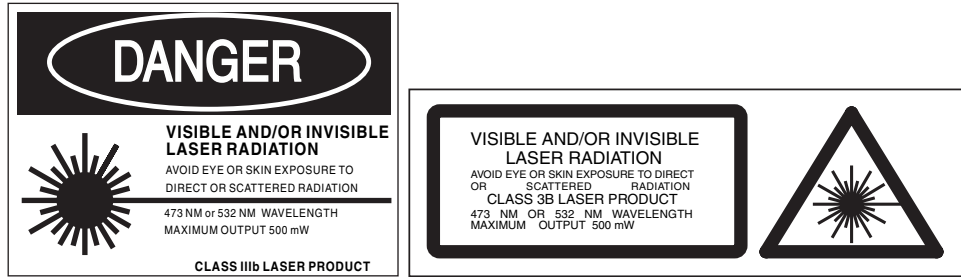

Figure 2-1: These standard safety warning labels are appropriate for use as entry warning signs (EN 60825-1, ANSI Z136.1 Section 4.7).
- Post prominent warning signs near the laser operating area (Figure 2-1).